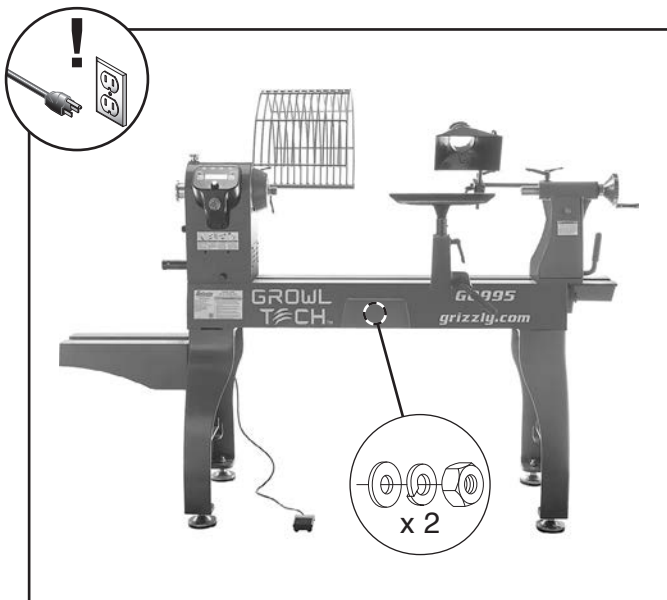

Figure 86. Location of center mount cover fasteners.
2. Remove (2) hex nuts, lock washers, and flat washers securing center mount cover, then remove cover (see **Figure 86**).